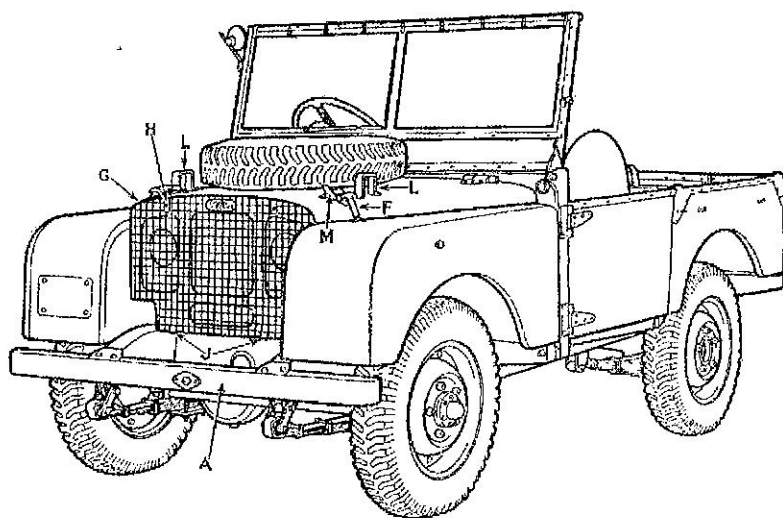
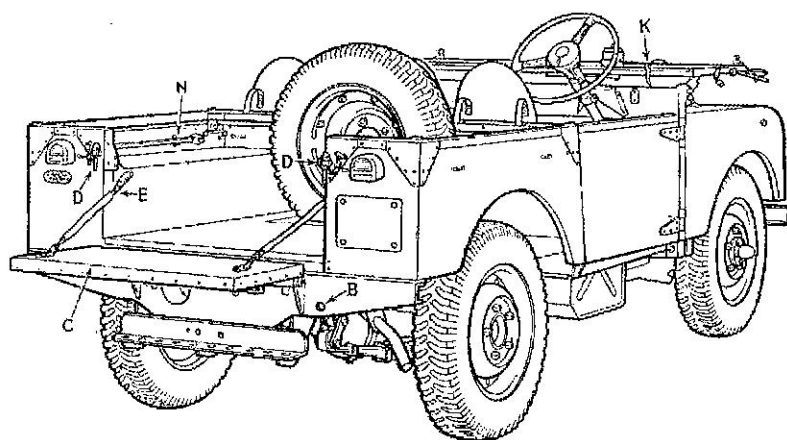

Fig. 1. (Three-quarter front view).
Fig. 2. (Three-quarter rear view).
The main characteristics of the Land-Rover are brought out in Figs. 1 and 2; there are, however, a few small points which may not be too clear from the illustrations and which require explanation to ensure your obtaining the maximum utility from the vehicle.
Provision is made for folding the windscreen down on to the bonnet (Fig. 2). To do this, release the two clamps (K) from the dash panel and lower the windscreen on to the supports (L); secure in this position by means of the spring fasteners (M). To prevent rattles when not in use, these fasteners are normally clipped to the bonnet panel (Fig. 1).
The spare wheel is stowed in the depression in the body floor (Fig. 2) and retained by means of a clamp and wing-nut. When it is desired to utilise the entire body space for load-carrying the spare wheel can be carried in the alternative position on the bonnet top (Fig. 1). The mounting plate for this purpose is supplied as an extra component (see Page 95). With the spare wheel carried in this way, it is not possible to fold the windscreen into the horizontal position.
The small tools are carried in the locker under the seat-box on the left-hand side. Clips for the starting handle are fitted on the rear of the seat back-rest panel and those (N) for the jack handle on the inside of the left-hand side panel (Fig. 2). When certain items of special equipment are installed, the jack handle is stowed in clips along the dash above the instrument panel.